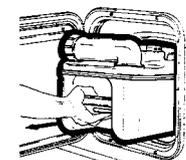

Fig. 2
2. Remove holding tank by pulling straight out. When holding tank hits the stop, tilt front end downwards slightly and remove (fig. 2).